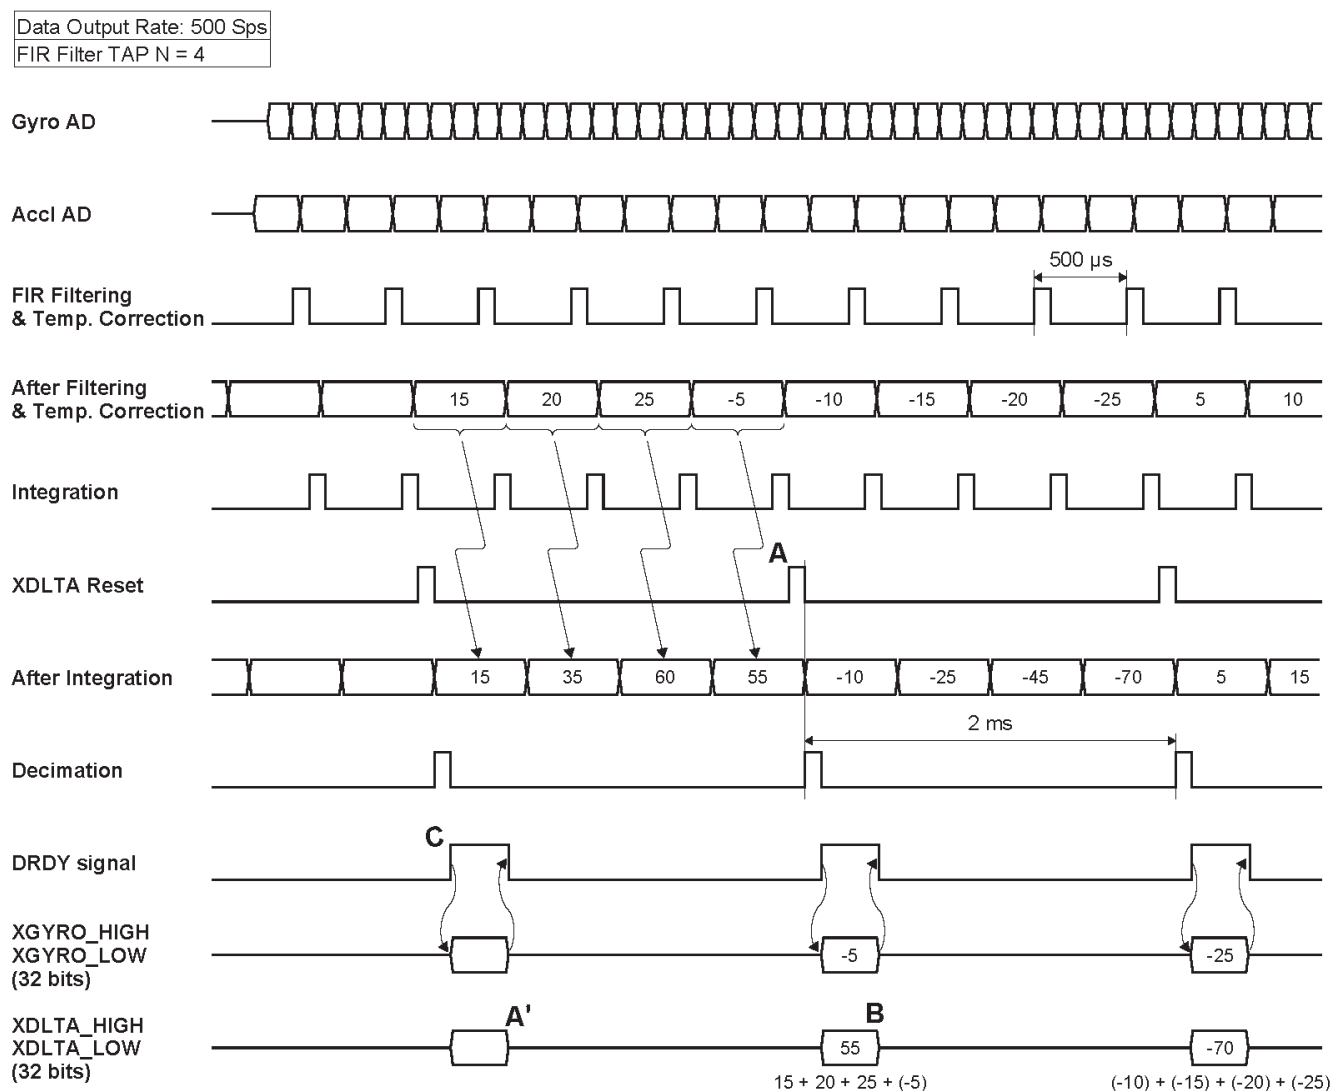

Figure 4.15 Delta Angle / Delta Velocity
For example, in case of down-sampling ratio 4:1 (**DOUT_RATE** of **SMPL_CTRL**[0x05 (W1)] = 0x02), the integration data of four x-axis angular rate and x-axis linear acceleration values after filtering and temperature correction is stored in **XLDTA_HIGH** and **XLDTA_LOW** (Register[0x64–0x67 (W0)]), and **XLDTV_HIGH** and **XLDTV_LOW** (Register[0x70–0x73 (W0)]) respectively in 32-bit data format. Figure 4.15 shows the timing diagram in the case of down-sampling ratio 4:1, 500 sps and Filter TAP: N = 0.
- When using Delta Angle / Delta Velocity output with UART_AUTO disabled (UART_CTRL[0x08 (W1)] bit 0 = 0), send BURST_CMD within 500us of DRDY assertion (point C in Figure 4.15).